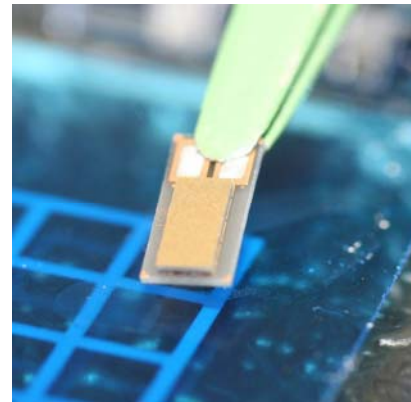

Figure 3
- Close the tweezers against the Bottom Header underside and bond pads [Figure 3]